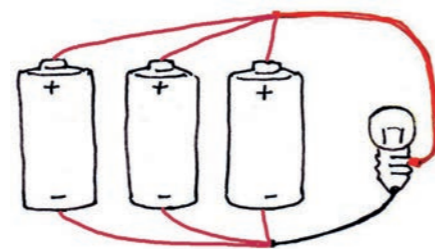

Figure 17
5. Copy the picture in Figure 17. Draw wires between the terminals of these cells to show how you would connect them in parallel.